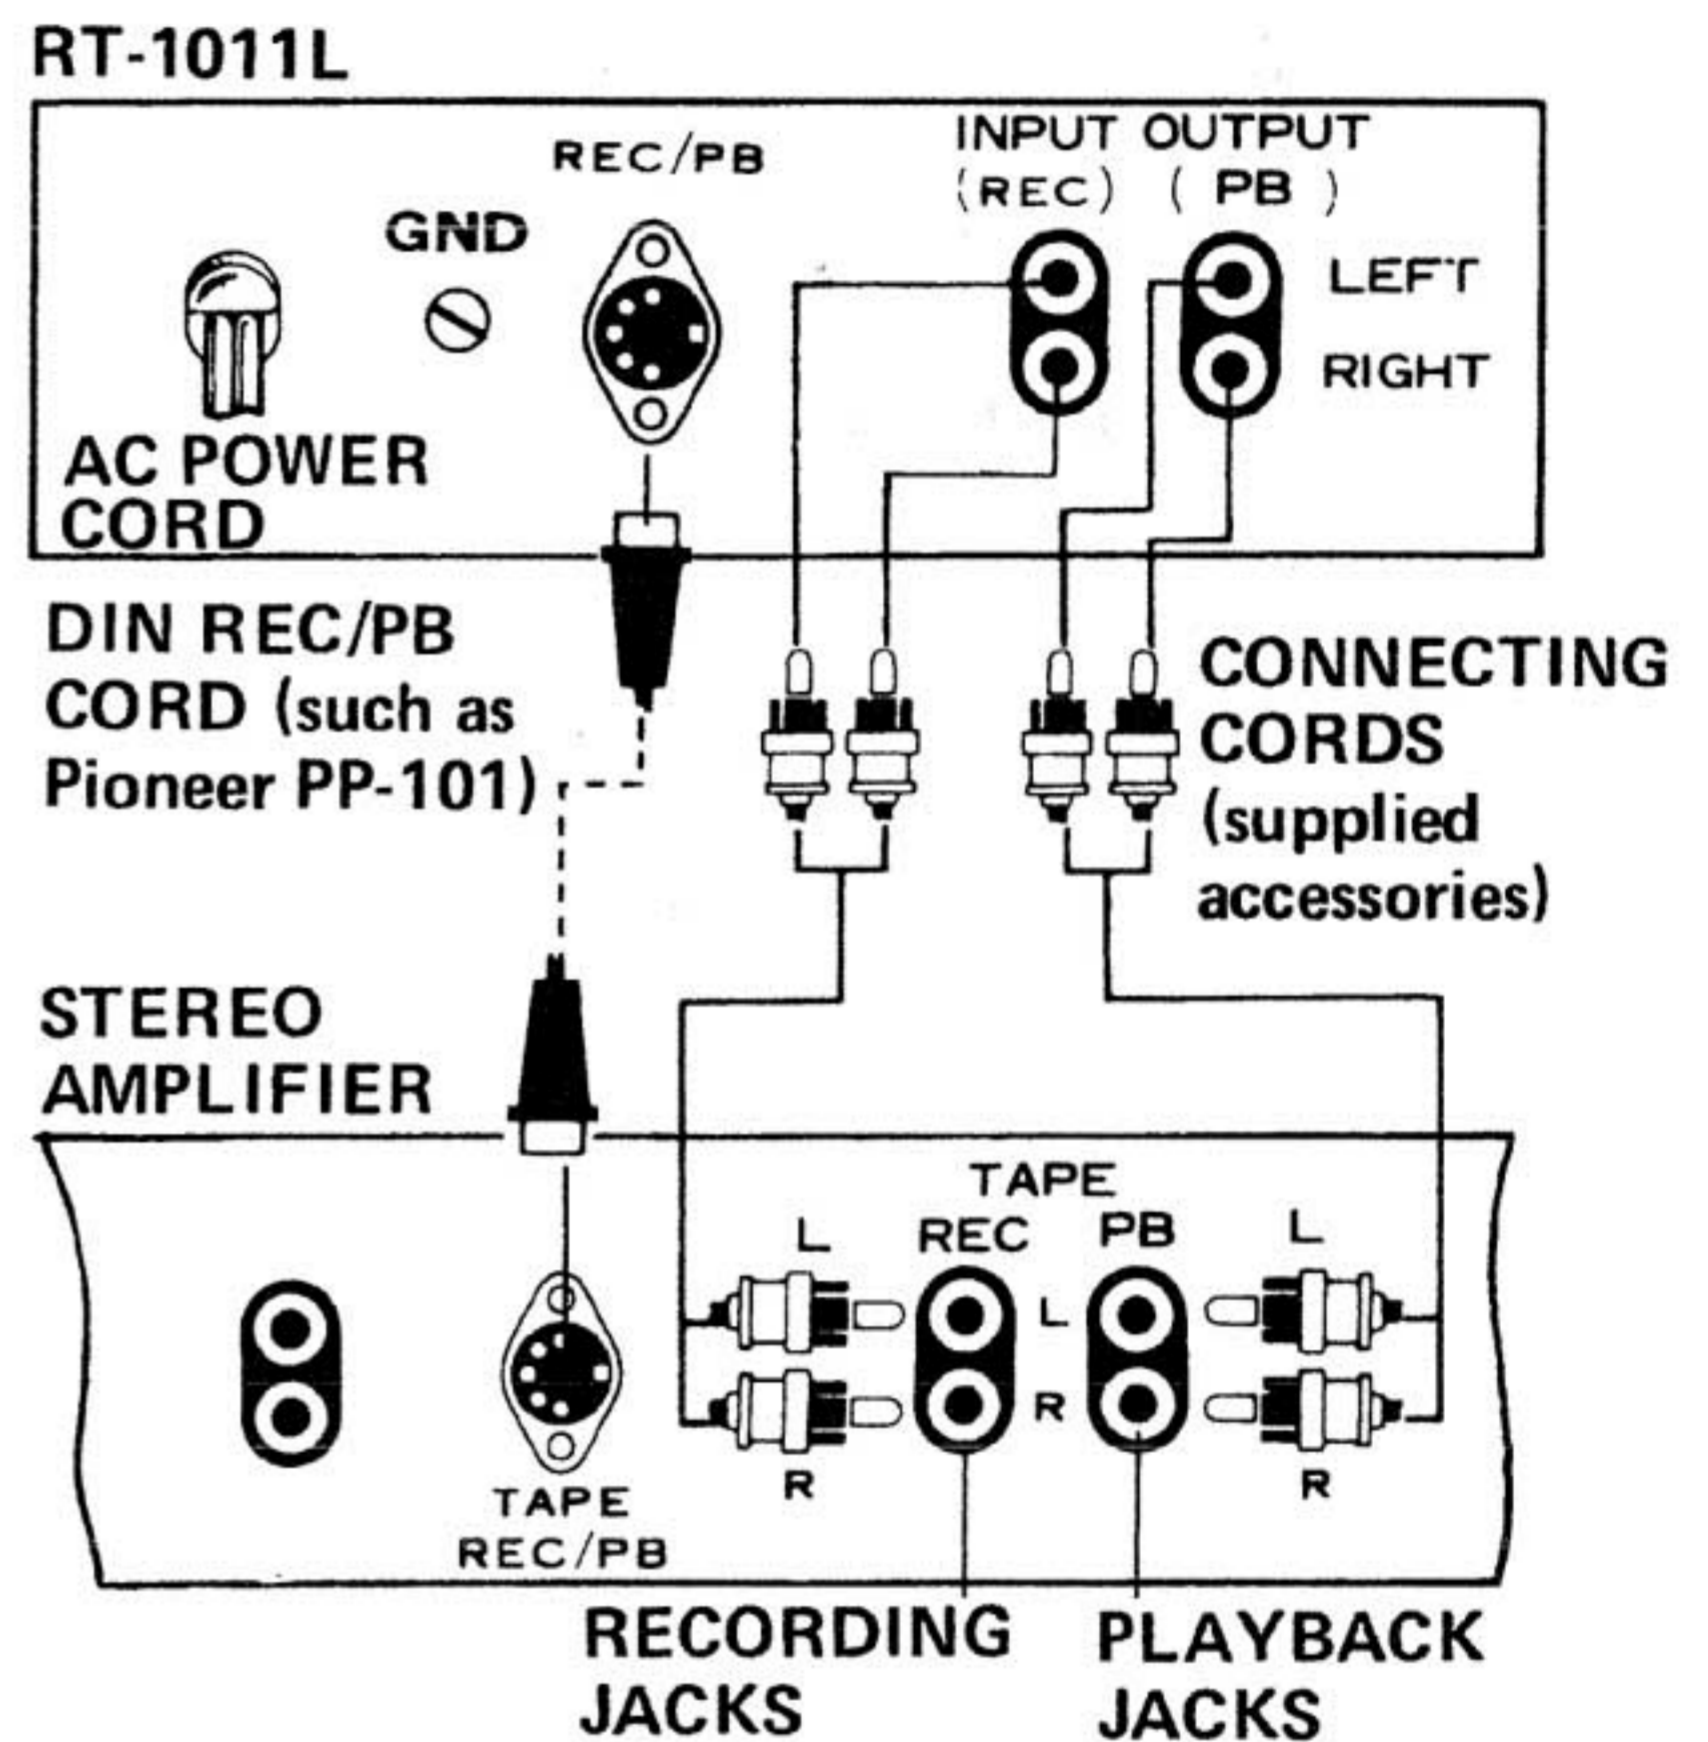

Fig. 4
With accessory connecting cord, connect OUTPUT (PB) jacks to stereo amplifier tape playback jacks, as shown in Fig. 4.
As shown in Fig. 4, connect one set of INPUT (REC) jacks to stereo amplifier recording output jacks (TAPE REC) with accessory connecting cord.
If the stereo amplifier is provided with a DIN type record/playback connector, use the separately sold connecting cord (Pioneer PP-101) to connect it to the RT-1011L, as shown in Fig. 4.